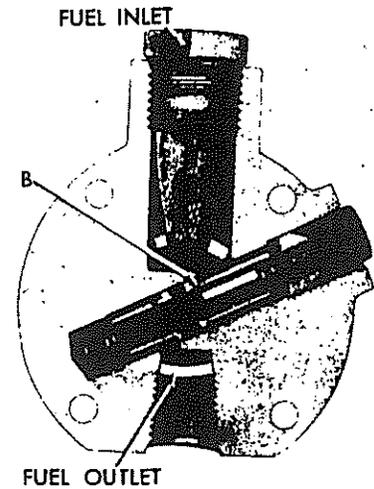

FIG. 10 (Pressure Regulating)
Fig. 10 shows the piston in operation. Fuel pressure forces the piston up the sleeve until the regulating port or ports (B) are uncovered. Since the pressure on the piston is opposed by the regulating spring, the delivery pressure of the transfer pump is controlled by the spring rate and size and number of regulating ports.